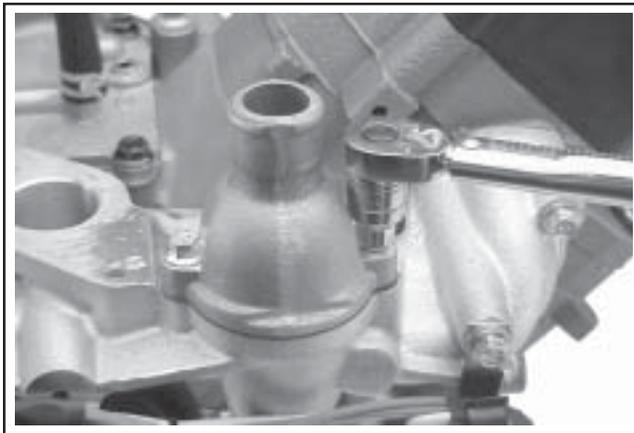

Figure 11-61. Torquing Thermostat Housing Screws.
8. Position the thermostat housing on the gasket and intake manifold. The notch in manifold, gasket and thermostat housing must all be aligned. Install and torque the two hex flange screws to 9.9 N·m (88 in. lb.). See Figure 11-61.